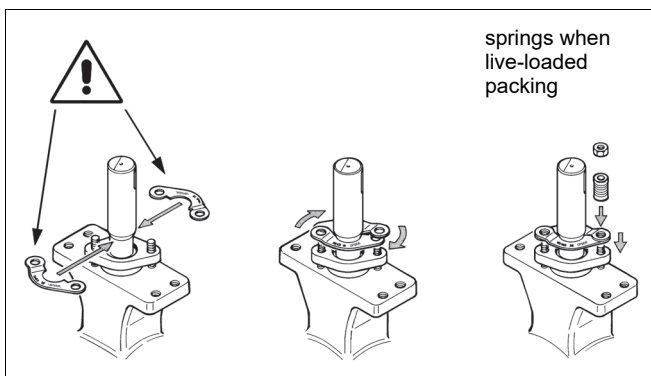
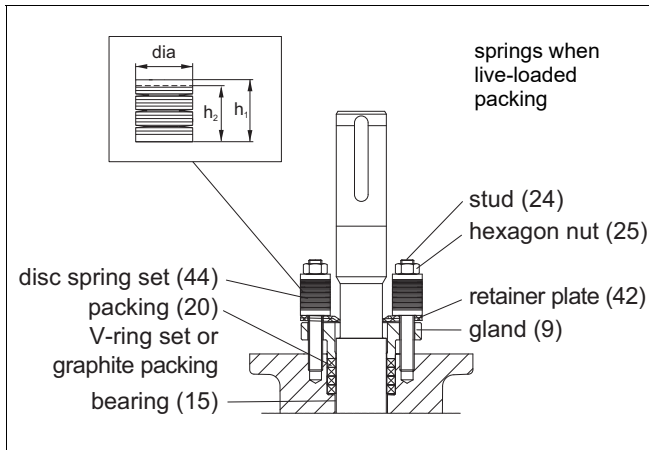

Fig. 10 Mounting the retaining plates
Fig. 11 Gland packing
- Unfasten the nuts (25) and remove the retaining plates (42) and the gland (9) (see Fig. 11).
- Remove the old packing V-rings (20). Do not damage the surfaces of the packing ring counter-bore and shaft.
- Mount the retaining plates with the text UPSIDE on top (see Fig. 10).
- Unfasten the nuts (25) and remove the disc spring (TA-Luft) sets (44), the retaining plates (42) and the gland (9) (see Fig. 11).
- Remove old packing rings (20). Do not damage the surfaces of the packing ring counterbore and shaft.